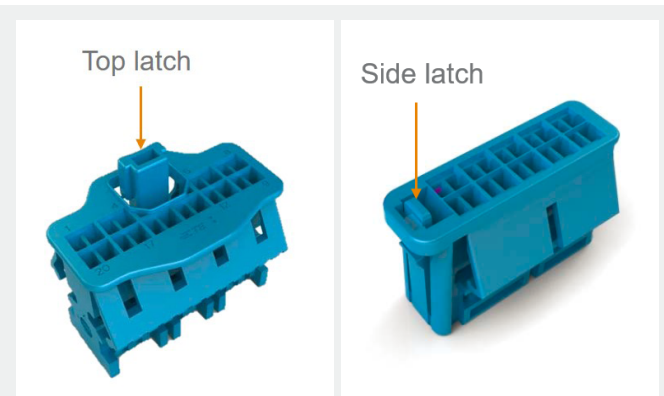

Figure 4: NanoMQS housings – top latch and side latch version
NanoMQS housing components (headers and connectors) are made from high-grade thermoplastic. There are two versions, Top Latch (TL) and Side Latch (SL), both of which are available in a perpendicular or parallel orientation to the PCB. A notable difference between the two versions is the position of the locking device of TL version, which is located centrally on top of the housing (Figure 4).
On the slightly more compact SL version, the locking device is located at the side of the housing (Figure 4). With the SL version, the device can be locked at up to 20 positions without the need for reinforcement ribs. In addition, the plastic locking and latching profiles have compact geometries. For example, the overlap between the connector and header fronts has a wedge shape that ensure a smooth guiding-in of the two halves during connector mating. When fully mated, the overlap results in a strong, positive connection formed by two wedge shapes securing each other.